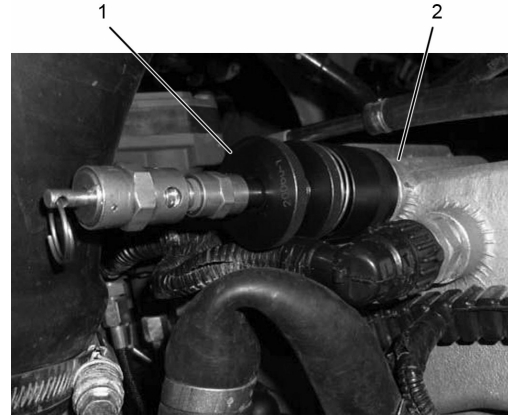
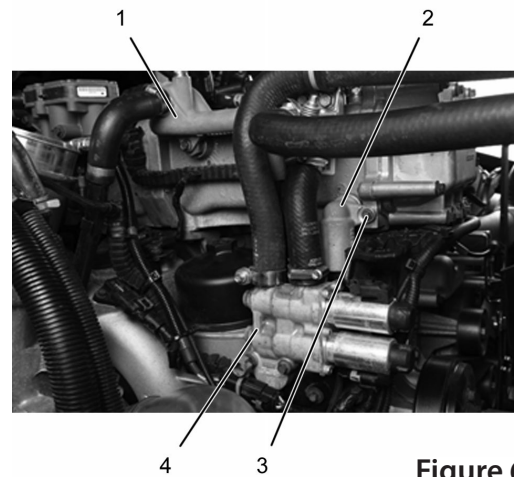

Figure 5
Figure 6
8. Install quick connect pop-off (Figure 6, Item 1) onto EGR cooler low-temperature coolant outlet (Figure 5, Item 2) hand tight.
9. Refer to TSI 13-12-06 for removal of upper manifold sub-assembly (Figure 6, Item 1) and coolant control valve assembly (Figure 6, Item 4).
10. Remove EGR cooler low-temperature coolant inlet bolt (Figure 6, Item 3).
11. Remove EGR cooler low-temperature coolant inlet (Figure 6, Item 2).